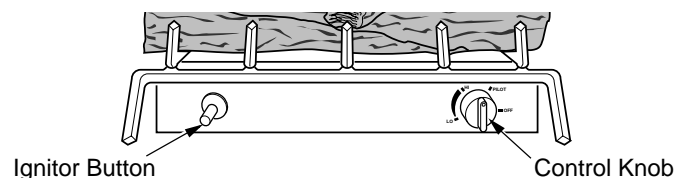

Figure 39 - Control Knob and Ignitor Button Location
4. Wait five (5) minutes to clear out any gas. Then smell for gas, including near the floor. If you smell gas, STOP! Follow "B" in the safety information, column 1. If you don't smell gas, go to the next step.
5. Slightly depress and turn control knob counterclockwise  to the PILOT position. Press in control knob for five (5) seconds (see Figure 39).